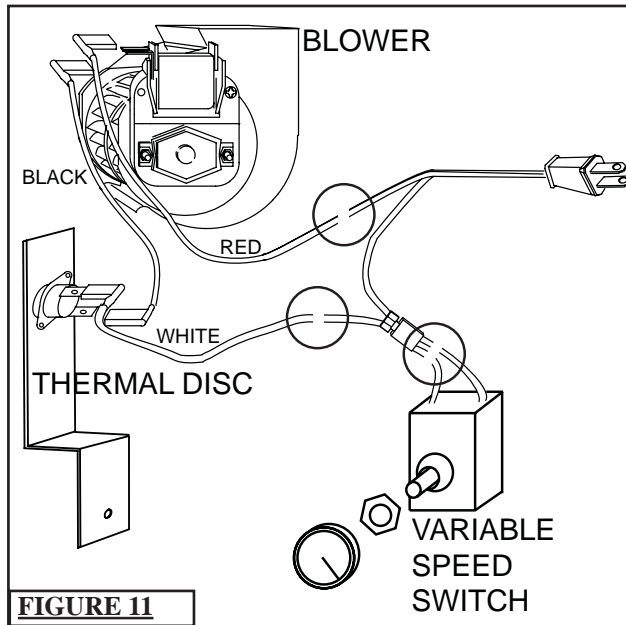

FIGURE 11
4. Cut the white wire as close to the connector as possible. (FIGURE 11).
5. Cut the red wire as close to the plug as possible. (FIGURE 11)